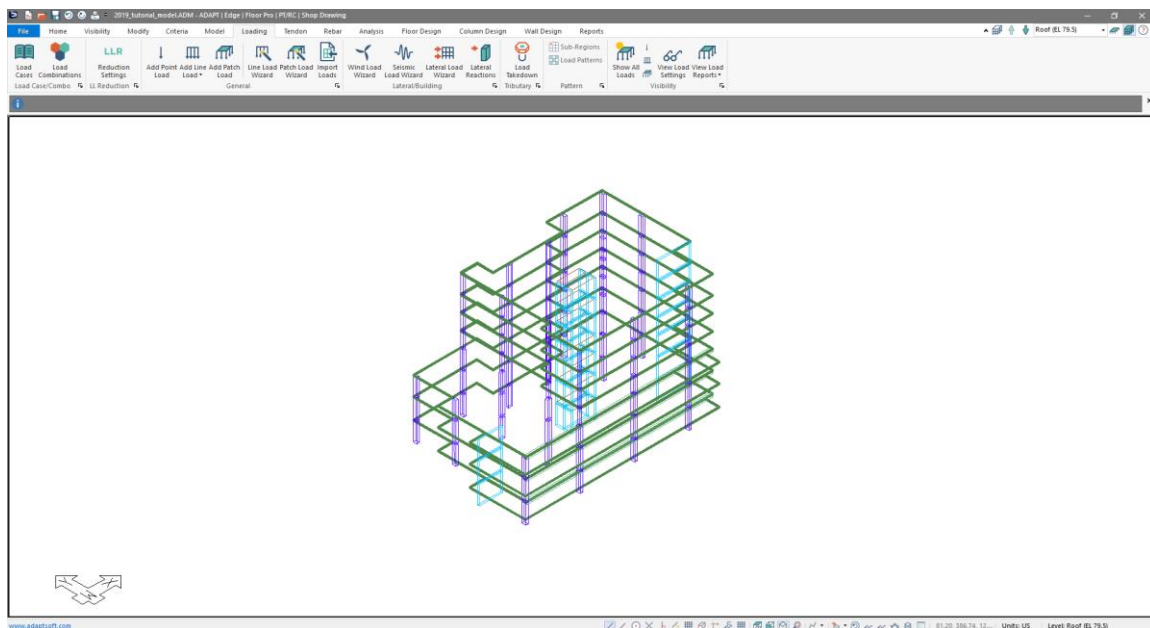

Figure 11-7
- Click **OK** the user's screen should now look similar to **FIGURE 11-7**.